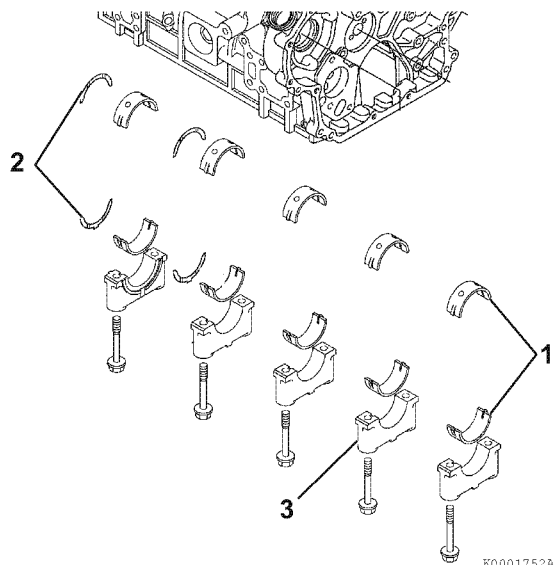

Figure 6-92
9. Stagger the piston ring end gaps at 120° intervals (**Figure 6-92, (1, 2, 3)**). Do not position the top piston ring end gap in line with the wrist pin.
2. Reinstall new bearing inserts (**Figure 6-92, (1)**) and thrust bearing (**Figure 6-92, (2)**) in the cylinder block and main bearing caps. Apply a liberal coat of clean engine oil to the bearings and crankshaft journals.
4. Reinstall the main bearing caps (**Figure 6-92, (3)**).